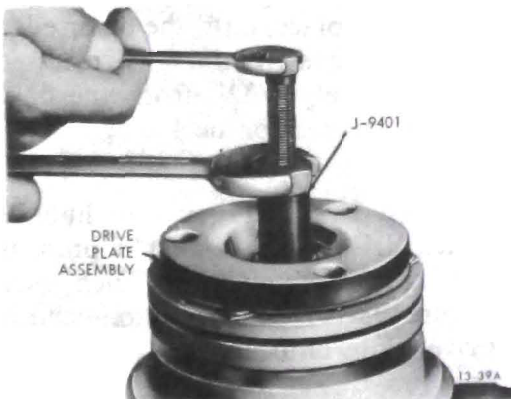

Figure 13-62 Removing Clutch Drive Plate
3. Install threaded hub puller (J-9401) onto hub of clutch drive plate (see Figure 13-62). Hold body of hub puller with wrench, tighten center screw of hub puller, and lift off clutch drive plate and woodruff key.
12. Reassemble retainer ring into hub of clutch drive plate (see Figure 13-62) using No. 21 truarc pliers (J-5403).